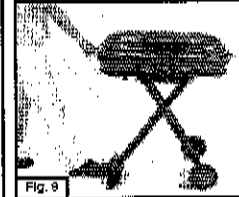
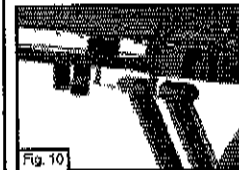
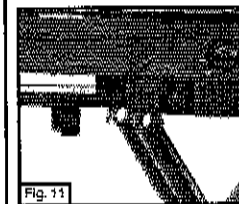

Fig. 9
Fig. 10
Fig. 11
- Lower stove and slide stove back until leg extensions lock into brackets on bottom of stove stand. (Fig. 9, Fig. 10, Fig. 11)